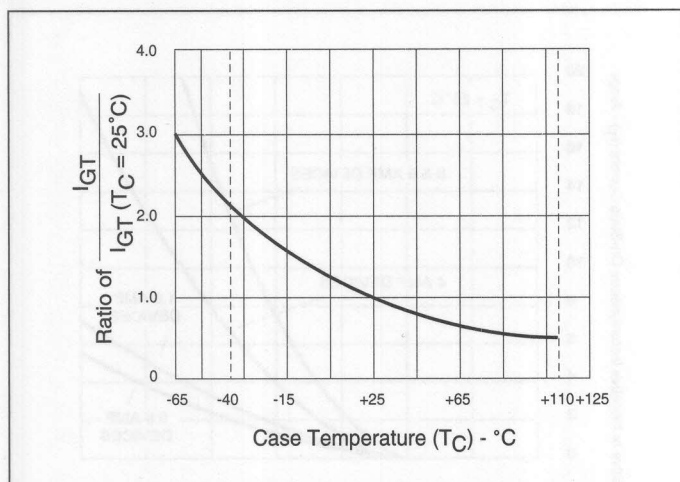

Figure 1.7 Normalized DC Gate Trigger Current for All Quadrants vs Case Temperature
- See Figure 1.7 for I_{GT} vs T_C .